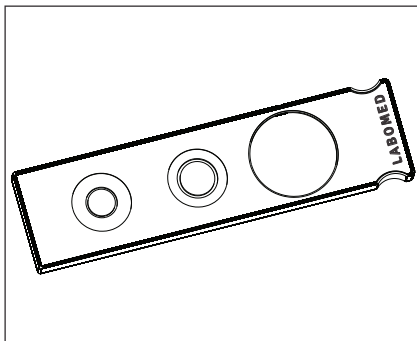

Fig. 9
1. Hold the phase slider face up (LABOMED written facing upward) with the finger on the right and slide it gently into the slot. As shown in Fig. 9.